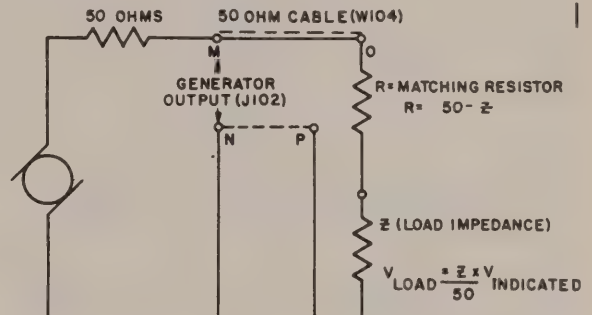

Figure 4-6. Equivalent Circuit of RF OUTPUT X-MULT (J102) with Series Matching Resistor Added
c. When the load impedance is less than 50 ohms, the impedance adapter cannot be used. In this case, a non-inductive composition resistor should be added in series with the input element at the receiver under test, so that the sum of the receiver input impedance and this resistor will be 50 ohms (figure 4-6). The total load impedance will then match the signal generator impedance at J102 and standing waves will be minimized. The actual receiver input voltage can then be calculated from the formula indicated in figure 4-6. When applying this procedure, it will probably be necessary to file down a larger standard resistor to get the precise value required. Use the Resistance Bridge ZM-4/U or equivalent to measure the resistance. For example, if the load impedance of the receiver (Z) is equal to 30 ohms, a series resistor (R) of 20 ohms must be added in series with the receiver. A meter (M101) indication of 10,000 microvolts will then represent an actual receiver input as follows: